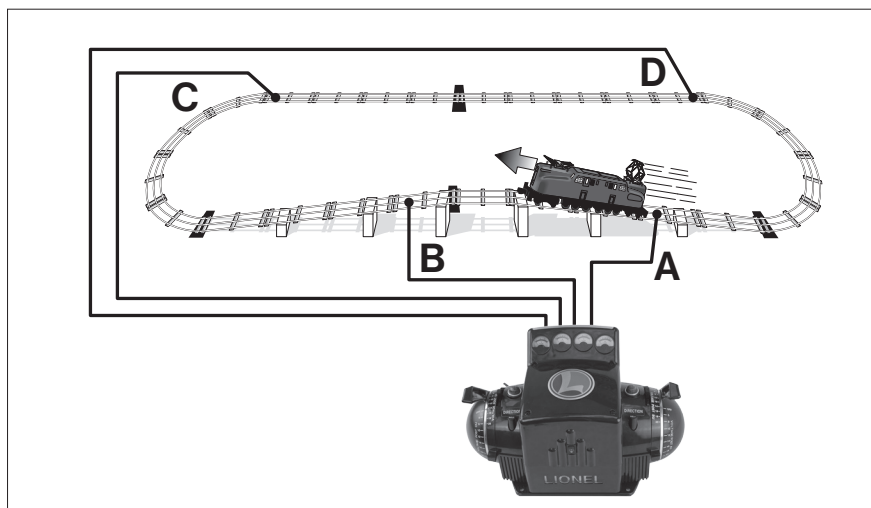

Figure 5. Track block/output assignments
**F**or larger layouts, you may choose to connect the ZW-L Transformer to the track at multiple points to avoid voltage drops or to have more power available for ascending grades, etc. An example is illustrated in Figure 5.